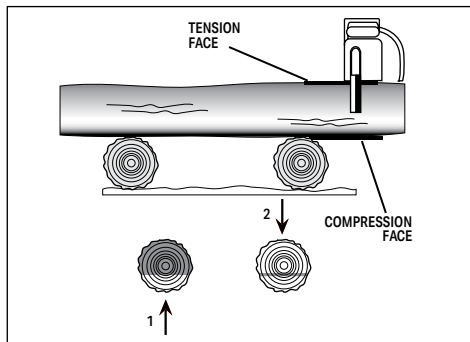
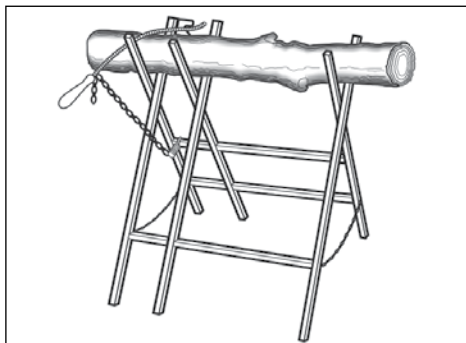

Fig. 21
Fig. 23
7.9 Cross Cutting/Bucking (Fig.21 – Fig.23)